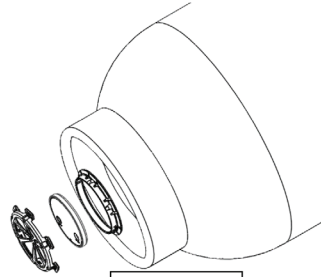

FIGURE 5
- 3.3 **See Fig 5 and 6**. Before removing protective paper on adhesive, place the collar in the center of the tank bottom and mark the position for easier installation.